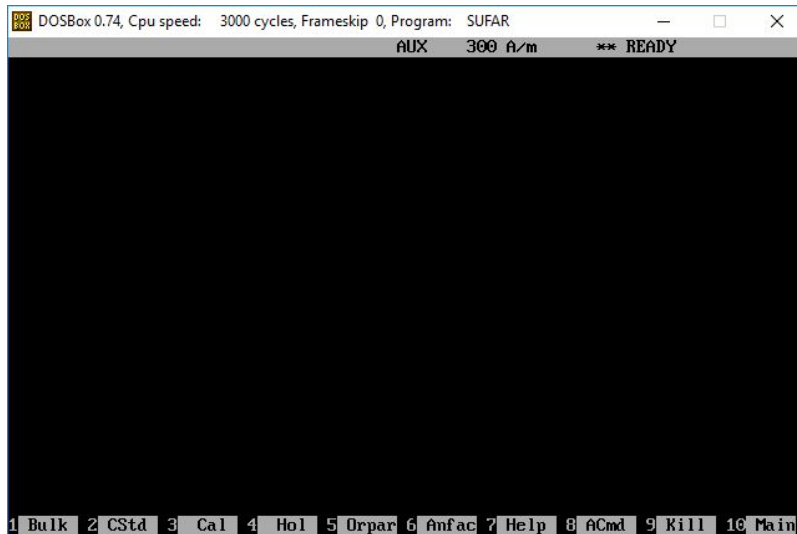

Figure 10. Sufar Auxiliary Menu window
1. Press F10 to access the auxiliary menu (Aux) in Sufar (**Figure 10**). When in the Auxiliary menu the AUX will be displayed in the grey bar at the top of the window.